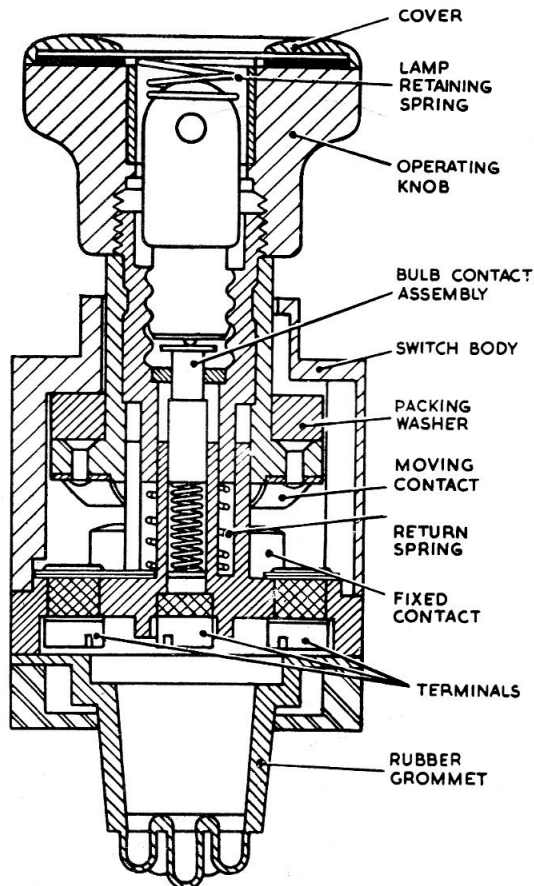

Fig. 2. Sectional view of switch
3. A general view of the switch is given in fig. 1, and a sectional view in fig. 2. The cover of the operating knob is marked with yellow diagonal stripes, and is fitted with one of four red cellastoid windows, as listed under Leading Particulars, to indicate the area concerned.